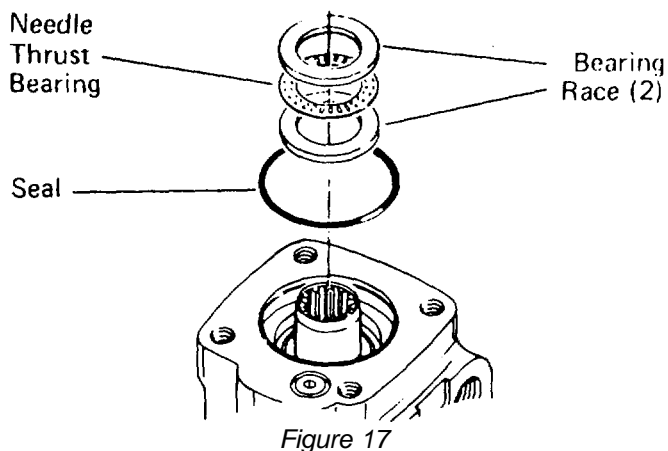

Figure 17
12. Place housing on clean, lint free cloth. Install 2-1/8" diameter seal in housing, see Fig 17.
13. Install 2 bearing races and the needle thrust bearing in the order shown in Fig. 17.